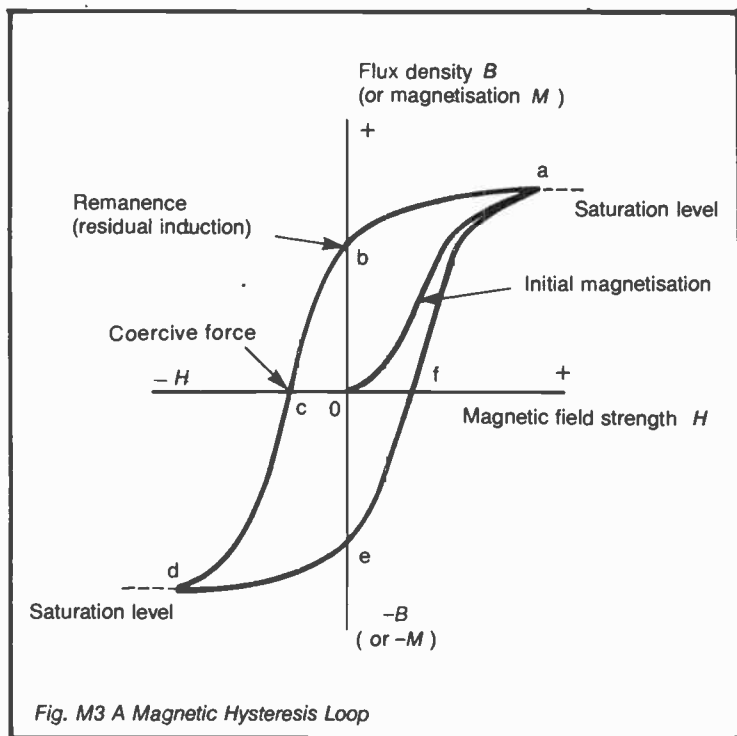

Fig. M3 A Magnetic Hysteresis Loop
**MAGNETIC HYSTERESIS** This occurs in *ferromagnetic* materials (easily magnetised) in that the magnetisation ( $M$ ) or flux density ( $B$ ) lags behind the applied magnetic field strength ( $H$ ).  $M$  and  $B$  also vary non-linearly with  $H$ . A typical magnetic hysteresis set of curves or loop is shown in Figure M3. By such curves as these many of the characteristic properties of the material are displayed.
**MAGNETIC SATURATION** When a specimen of a ferromagnetic material is subjected to an increasing magnetising force of magnetic field strength  $H$ , the flux density  $B$  at first also increases but eventually reaches a saturation level where further increases in  $H$  result in no corresponding increase in  $B$ . This is illustrated in Figure M3 where the two saturation levels (according to the direction of  $H$ ) are indicated on the curve.